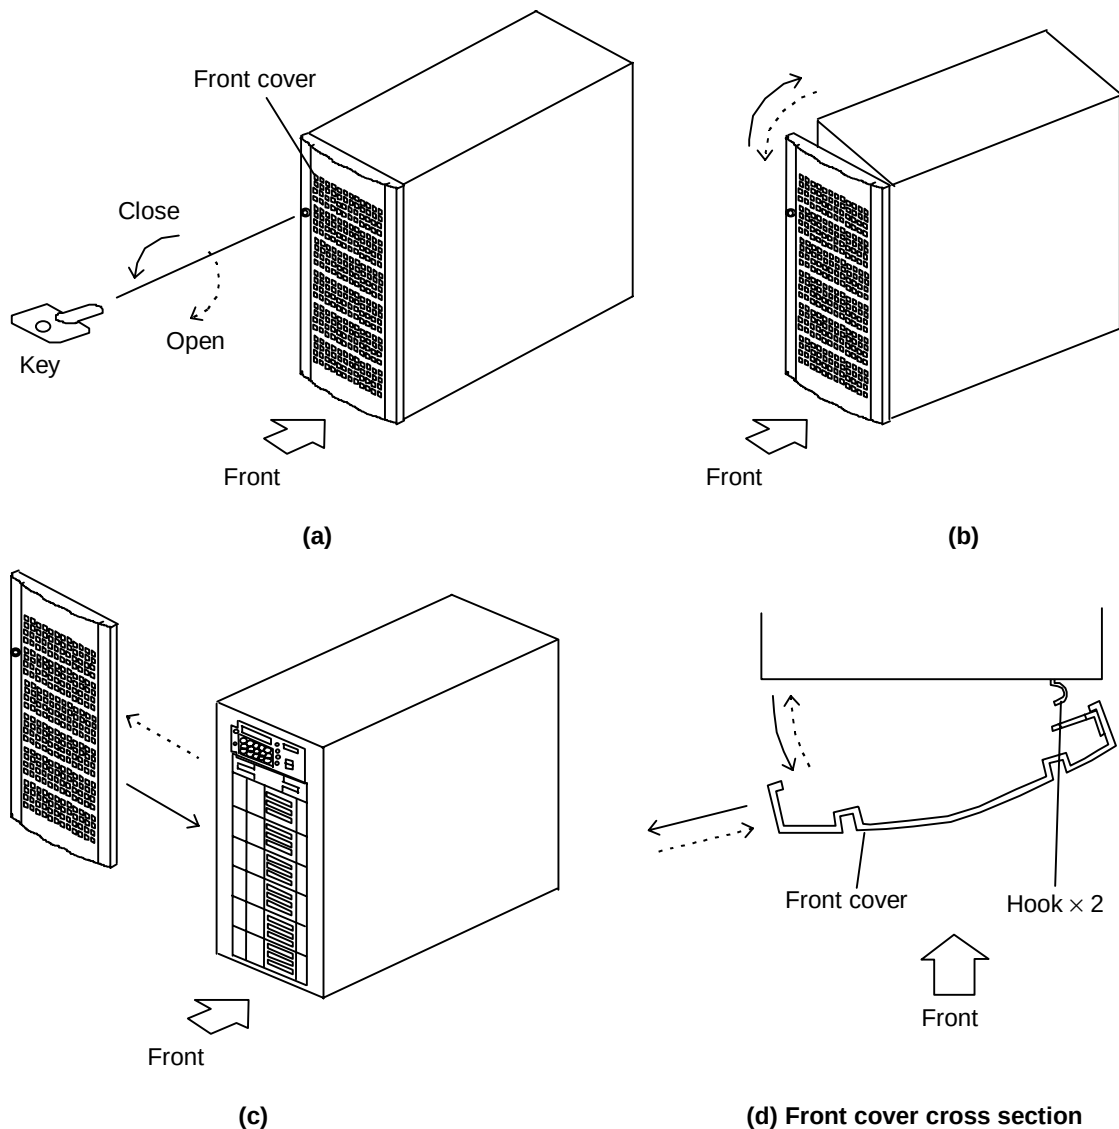

Figure 3.1 Removing/Attaching the Front Cover
(1) Removing the front cover.
① Insert the key attached to the subsystem into the keyhole and turn it clockwise. (See Figure 3.1 (a).)
② Turn the left of the front cover to your side to open it. (See Figure 3.1 (b).)
Notice : Operate slowly lest a strong force should be applied to the hook. (See Figure 3.1 (d).)
③ Remove the front cover to (···→). (See Figure 3.1 (c).)
(2) Attaching the front cover.
① Attaching the front cover in the reverse order step (1).